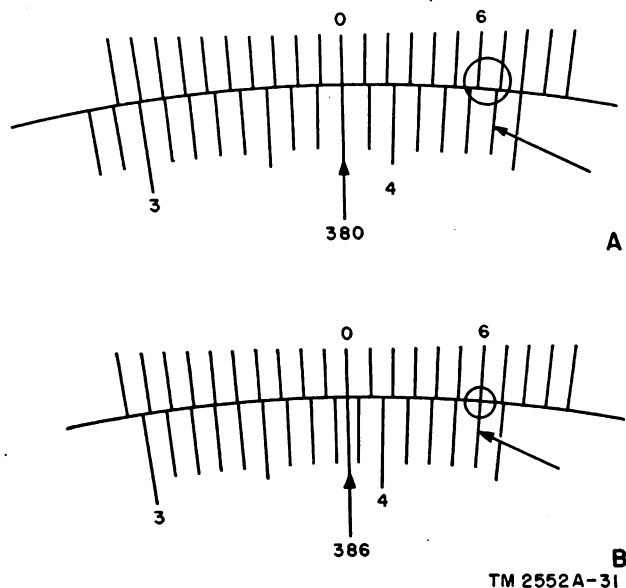

Figure 30. Using the vernier scale on Plotting Board M-10.
a. LAYING OFF CB-R AZIMUTH. A vernier scale has been provided at the edge of the base, opposite the index arrow, in order to obtain greater accuracy when laying off azimuths which require interpolation between gradations of the mil scale. The method below ((1) through (3)) illustrates, for example, the steps to be taken to plot the array positions and azimuth angles so that the target range and azimuth (from the counter battery position) can be read off the plotting board.
- (1) Set the gradation on the scale which represents 380 mils opposite the 0 (red) line of the vernier scale (A, fig. 30).
- (2) Count, on the vernier scale, six lines to the right from the 0 line.
- (3) Note the line on the mil scale which lies next to, and outside, the 6-mil line (the line further) on the vernier scale and rotate the top dial until the two lines coincide. The azimuth is now directly opposite the index arrow as shown in B, figure 30.